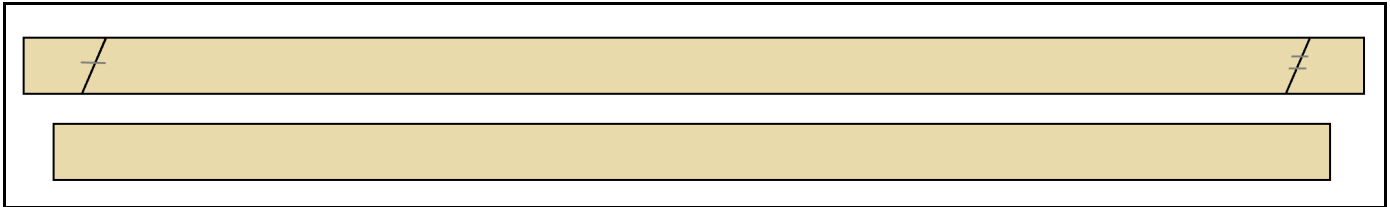

FIGURE 7
- ⇒ Place the longer 2x4 face down on the ground or your workbench. Measure in 3" from end on one side, and 5" from end on other side. Draw a line between those two marks. Do the same thing on the other end of the 2x4. The lines you've drawn should be on the wide (4") side of the 2x4, and should be parallel to each other. Make one "hash" mark across the line on one end of the board, and two hash marks across the line on the other end. These marks are so you know which piece came off which end, and so you can put them back together properly later. *Figure 7* shows the longer board with lines drawn and hash marks, and the shorter board below it.